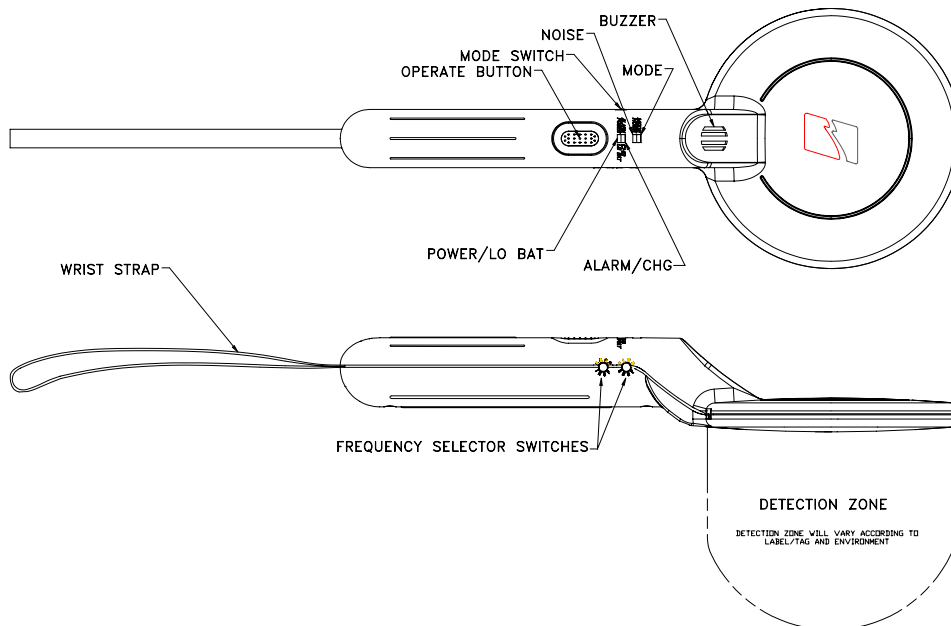

FIGURE 4
Controls (refer to Figure 4)
Indicators (refer to Figure 4)
- Place the deactivation key card directly under the Omni antenna (see Figure 4), then depress and hold the red operate button. All indicators, except the green PWR/LO BAT of the Omni indicators should blink in sequence at a constant rate, indicating Portable Deactivator operation. As long as the red power button remains depressed by the operator, the Omni will deactivate tags. Once the button is released, the Omni will return to PV mode.
Detection Range	PV mode: 3” - 5” (7 - 12 cm) Depending on label size and environment. See Figure 4 for approximate detection area.